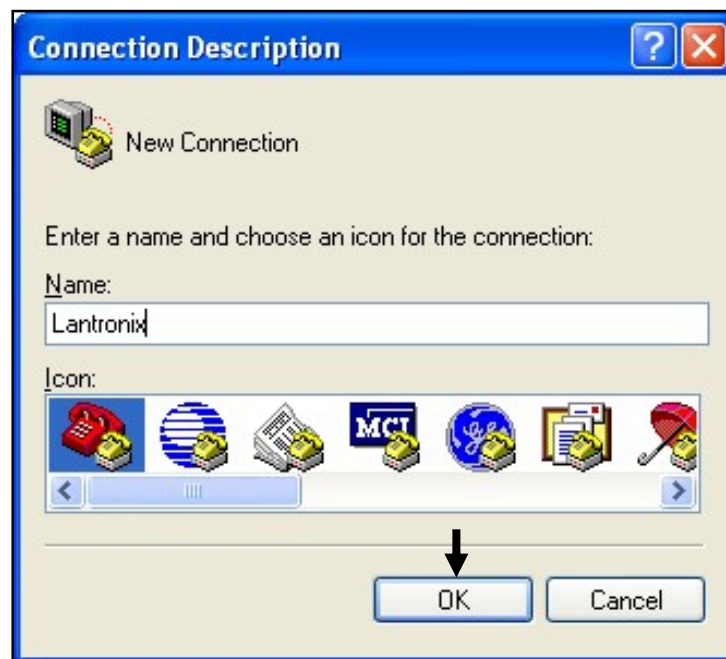

Fig. 4.4
- 4) Once HyperTerminal has started, type in any name, choose any icon that you wish, and then select **OK** (Fig. 4.4).